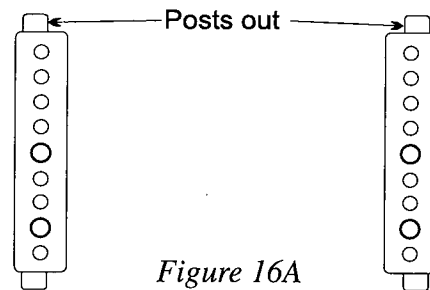

Figure 16A
Step 13. Refer to figures 16A and 16B. These are full size drawings of the steering servo posts mounted in the two different configurations. Hold your servo up to these diagrams and align the mounting ears on your servo with the holes in the posts. This will determine how to mount the steering servo posts (40).
Step 14. Once you have determined the mounting position of the steering servo posts (40), place the posts (40) into the holes in the chassis (27) so that the posts are offset in the correct direction from figure 16A or 16B.
**NOTE: If you do not have your radio system yet, or do not know which servo you will use for steering at this time, mount the posts according to figure 16A and continue. The direction of the posts can be changed once you have determined which servo you will use.*